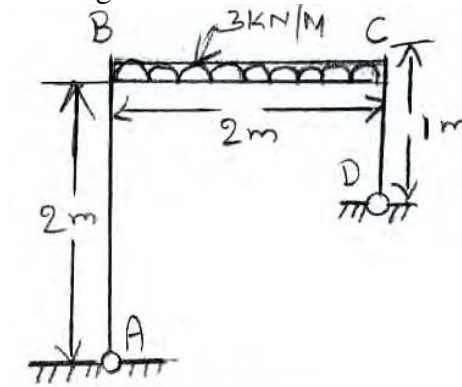

Figure 3
3. Using the method of minimum strain energy, analyze the portal frame shown in Figure 3. Plot the B.M diagram. EI is constant. [16]